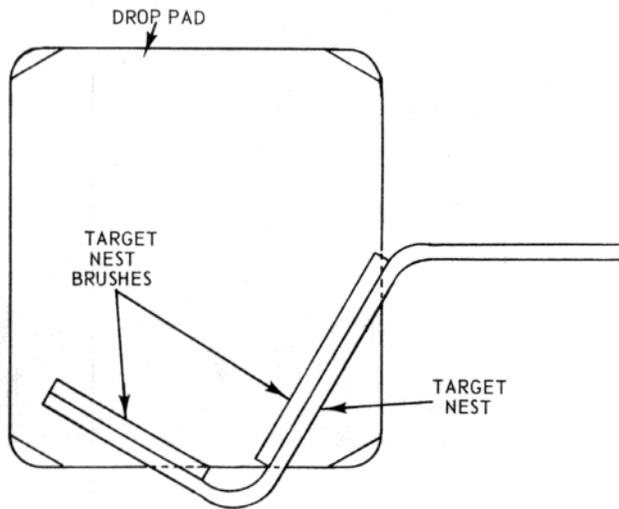

Figure 13 – Target Nest Position
1.1 The target nest should be positioned so that the bottom of the "V" is even with the lower edge of the drop pad (see Figure 13).